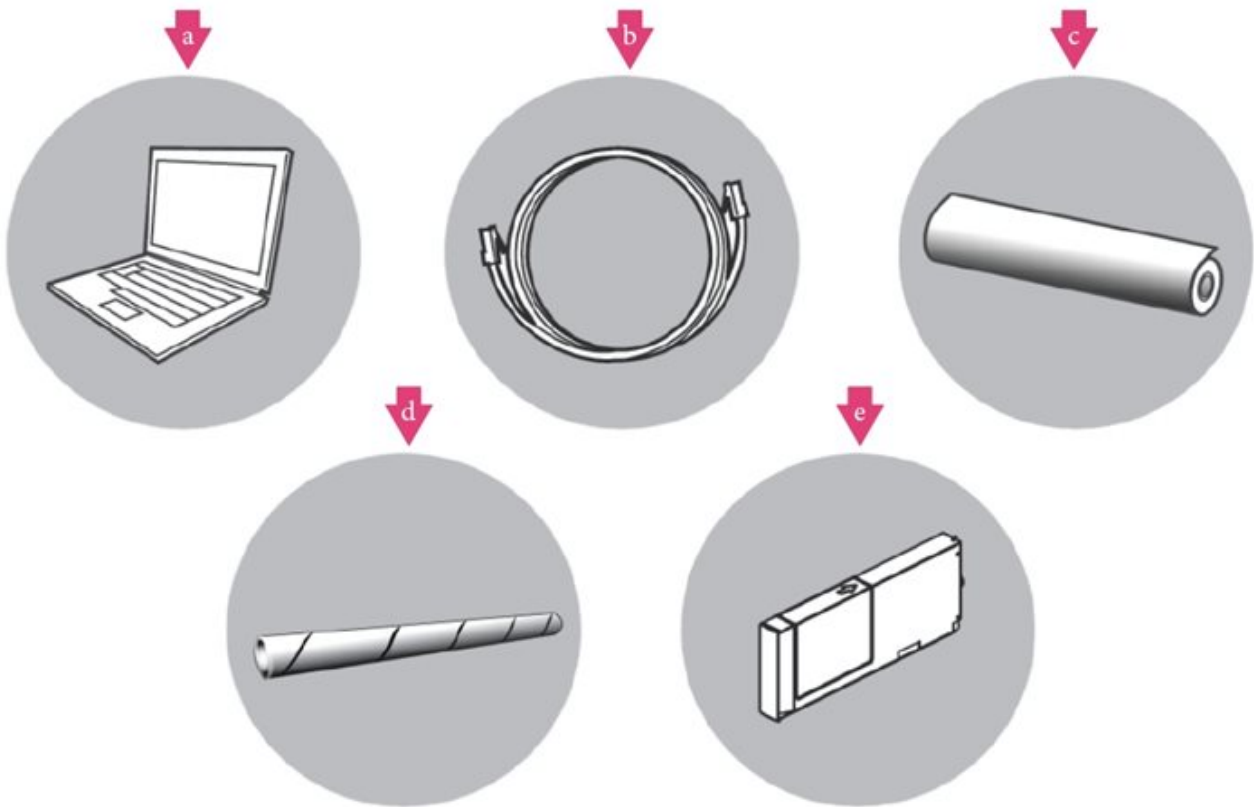

Figure 6
6. In order to install the product and make the initial settings, you will need the following items in addition to the packaged items. See Figure 6.